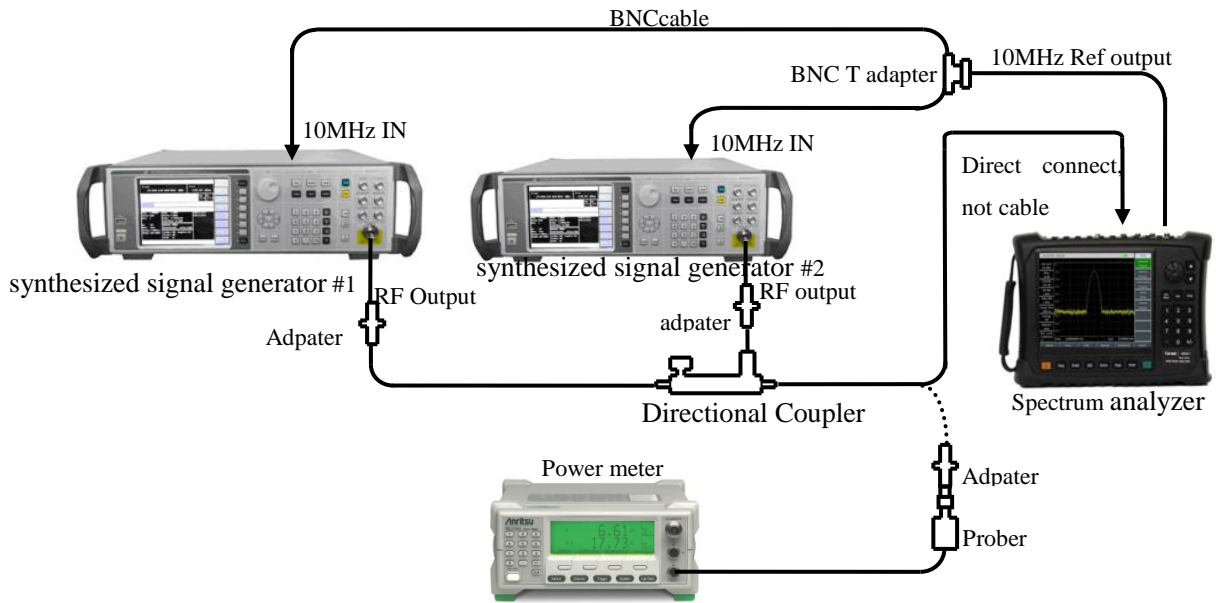

Fig. 12-12 1dB Gain Compression Test
- 2) Connect the test instrument as shown in Fig. 12-12. Using RF Directional Coupler, the spectrum analyzer will provide the frequency reference for the synthesized signal generator.
- 10) Connect the test instrument as shown in Fig. 12-12. Using Directional Coupler, the spectrum analyzer will provide the frequency reference for the synthesized signal generator, Set the frequency of 4024 instrument as 9GHz.
- 16) Connect the test instrument as shown in Fig. 12-12. Using Directional Coupler, the spectrum analyzer will provide the frequency reference for the synthesized signal generator, Set the frequency of 4024 instrument as 9GHz.